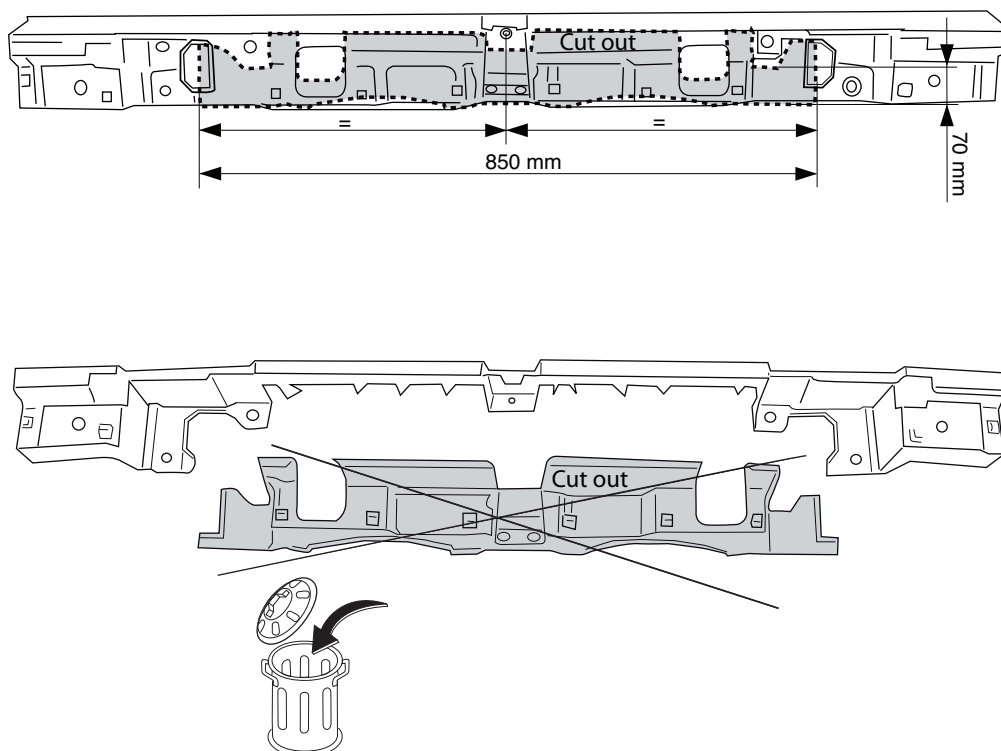

Fig.4
6. **For the models T5; 2011-2015 the following applies:** Saw out the indicated section in accordance with figure 4.
3. **For the models T5; 2011-2015 the following applies:** Saw out the indicated section in accordance with figure 4.
3. **Für T5; 2011-2015 Fahrzeuge gilt:** Gemäß Abb. 4 das angegebene Teil herauschneiden.